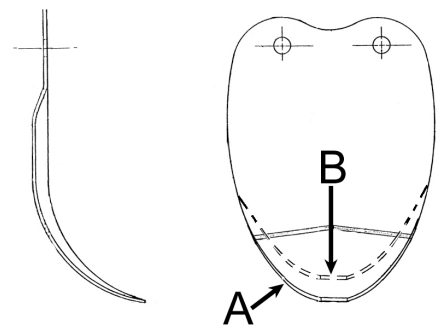

figure 15-1
State of the working tool blade(SF600)(figure 15-1)
- Check that rotary blades are in good condition, change worn or damage blade if the blade is worn more than (20 mm) the point B figure 15-1, comparing to a new blade (A, figure15-1).